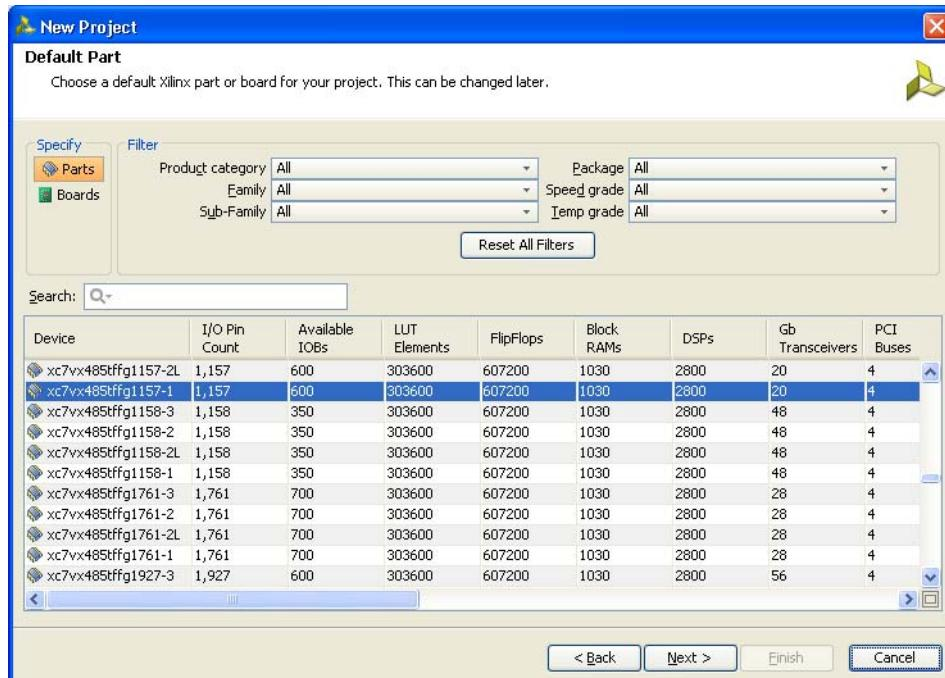

Figure 3-8: Default Part (Default Window)
- Click **Next** to proceed to the Default Part page (Figure 3-8) where the device that needs to be targeted can be selected. The default Part page appears as shown in Figure 3-8.